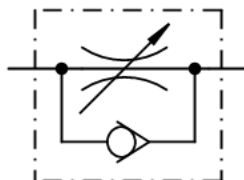

FIG 4.
B. The symbol for a one-way flow control valve is shown in Fig 4.